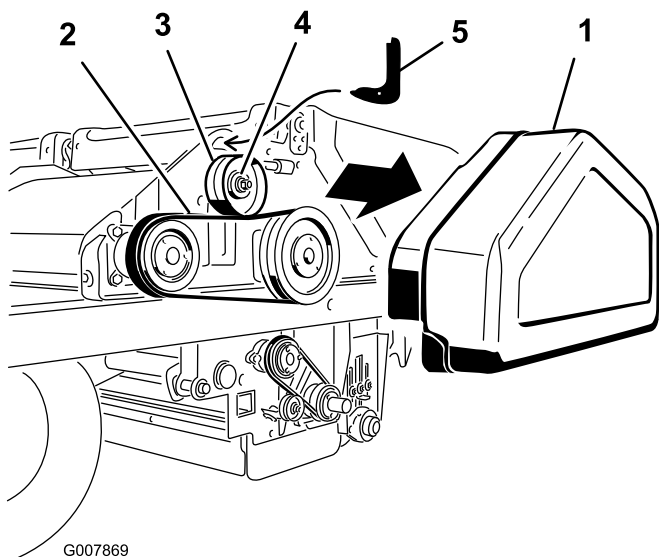

Figure 56
1. Remove the belt cover (Figure 56).
2. Loosen the nut on the idler pulley (Figure 56).
3. Insert the hook end of belt tensioning tool into the hole above the idle pulley (Figure 56). Rest the curved bottom of the tool on the idler pulley.
4. Insert the drive of a 1/2 inch torque wrench into the hole in the belt tensioning tool (Figure 56).
5. Rotate the tool toward you until the torque of 50 inch-pounds is achieved, then, while holding the torque, tighten the idler pulley nut (Figure 56).